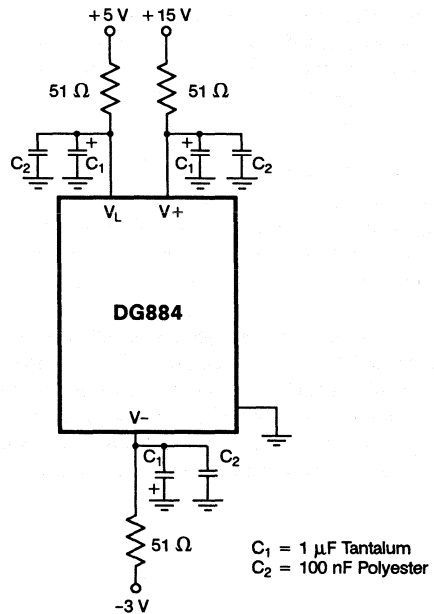

Figure 16. DG884 Power Supply Decoupling
- (d) Additional high frequency protection may be provided by 51 Ω carbon film resistors connected in series with the power supply pins (see Figure 16).